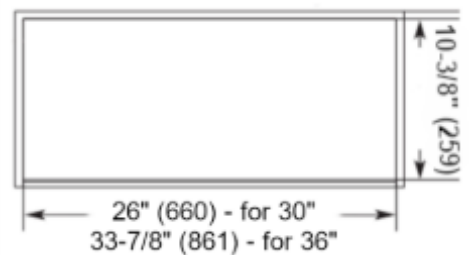

Figure 2
13. Cut out the opening where the insert will be installed. Refer to Figure 2. Refer to page 10.
15. Locate the screw holes (2) on each side of the hood. Adjust the level of the hood casing support according to the thickness of the base.